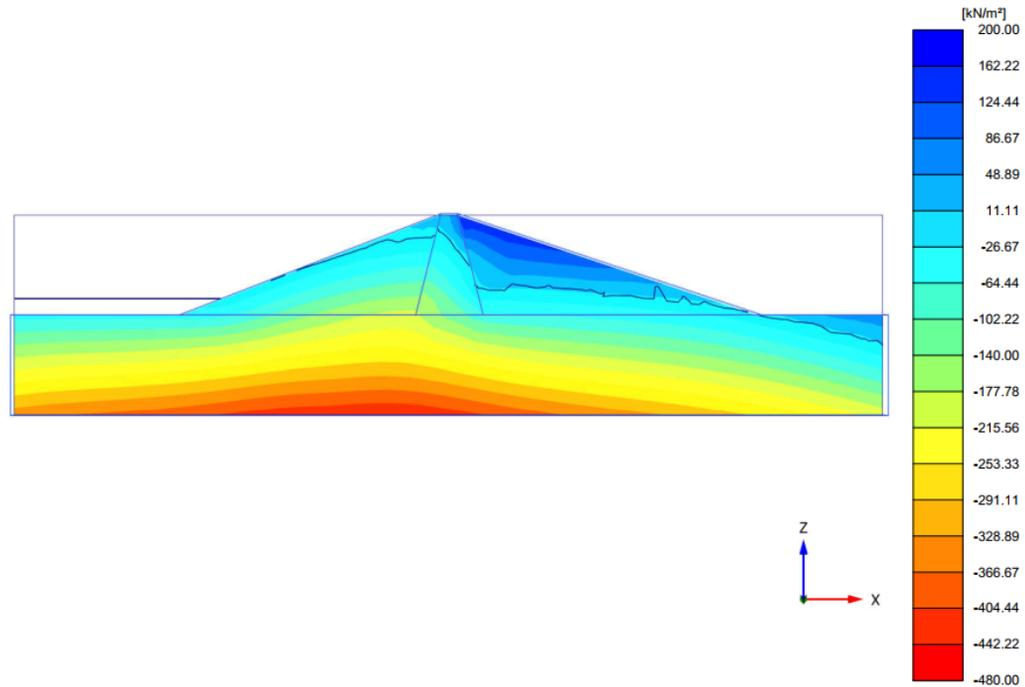

Figure 113: Pore water pressure distribution after rapid drawdown (Phase_1)
- The situation after rapid drawdown of the reservoir level - See Figure 113 (on page 141).